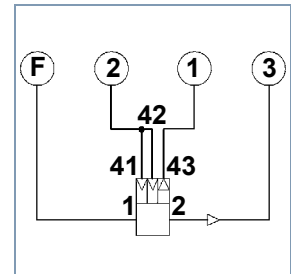

Fig. 2 Test bench connection diagram
- Connect the device to the test bench ports (see fig. 2) or according to the test diagram.